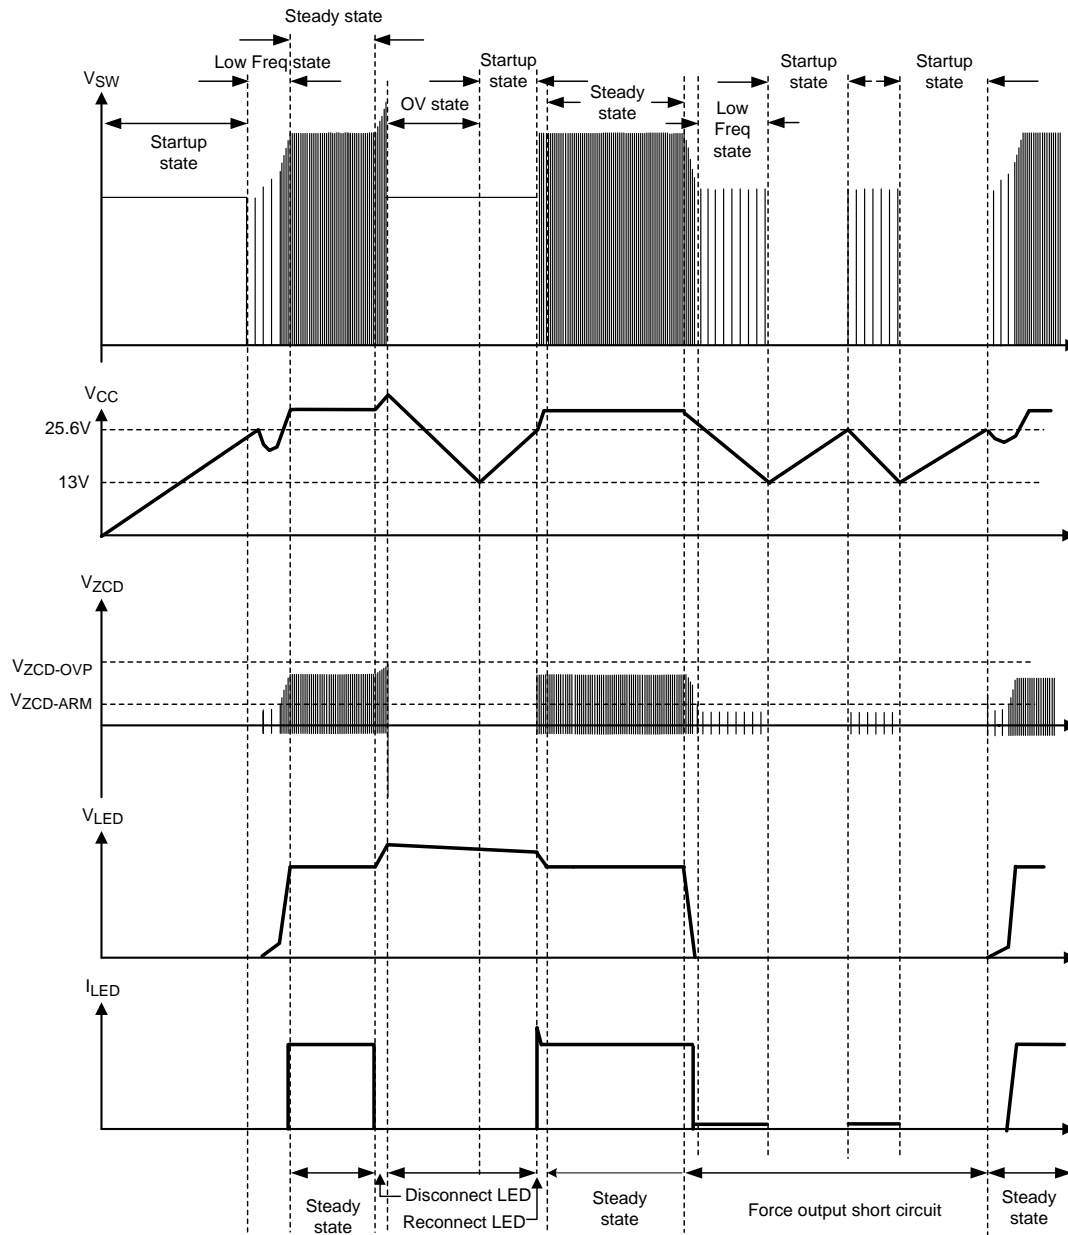

Figure 20. Auto Restart Operation
If the LED string is disconnected, V_{LED} increases and thus $V_{ZCD-PEAK}$ increases. When $V_{ZCD-PEAK}$ is larger than $V_{ZCD-OVP}$ for 3 continuous switching cycles, the Over Voltage Protection (OVP) feature is triggered such that the TPS92310 becomes Over-Voltage (OV) state. In this case, the switching of Q_1 is stopped, and V_{CC} decreases owing to the power consumption of the internal circuits of the TPS92310. When V_{CC} drops below the falling threshold of $V_{CC-UVLO}$, the TPS92310 restarts, and re-enters into startup state (Figure 20).